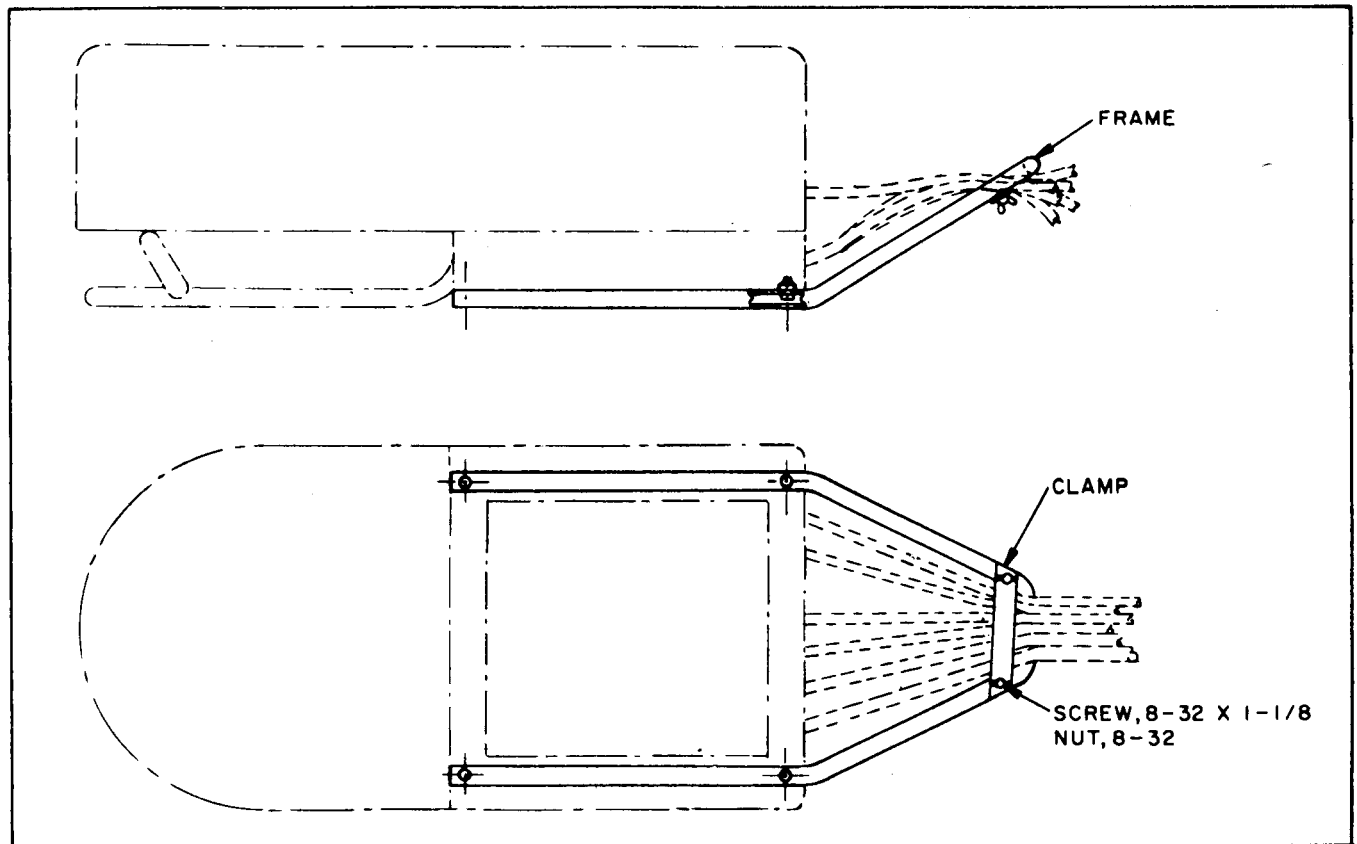

Figure 9. Anchoring Cable and Hoses on Strain Relief
c. Anchor cables and hoses and flexible shaft on strain relief (Fig. 9) to prevent straining at connection points to the Feeder 'as follows: